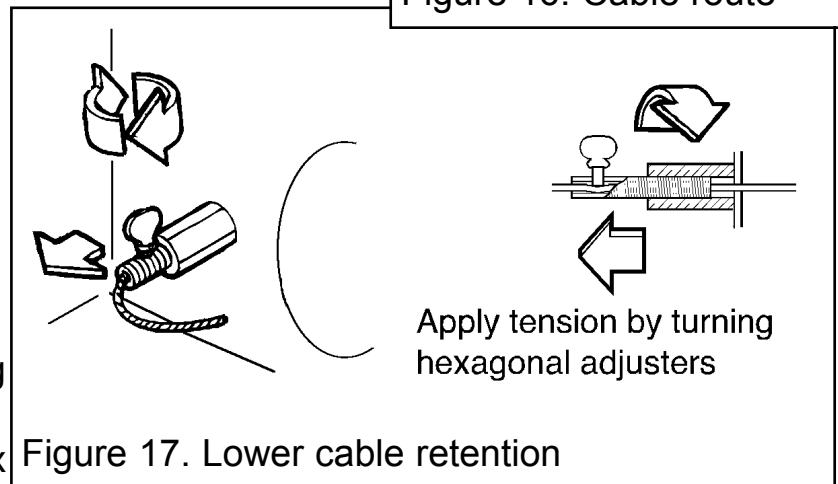

Figure 17. Lower cable retention
9. Pull each cable taut. Push the cable retainers hard up against the back panel. Tighten the screws in the retainers so that they clamp the cables in position. Apply tension to the cables by turning the hexagonal adjusters by hand (See figure 17).